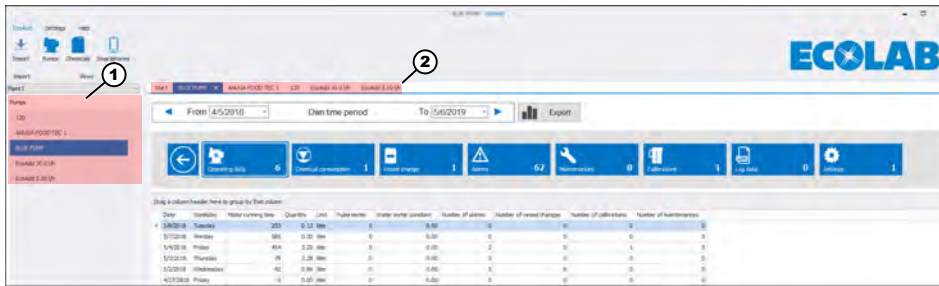

Fig. 32: Several pumps for selection
If several pumps are available (Fig. 32, item 1), you can display them by selecting them one after the other. When you do this, the program creates a tab for each pump (Fig. 32, item 2). You can call up a horizontal or vertical display to compare the data for different pumps.